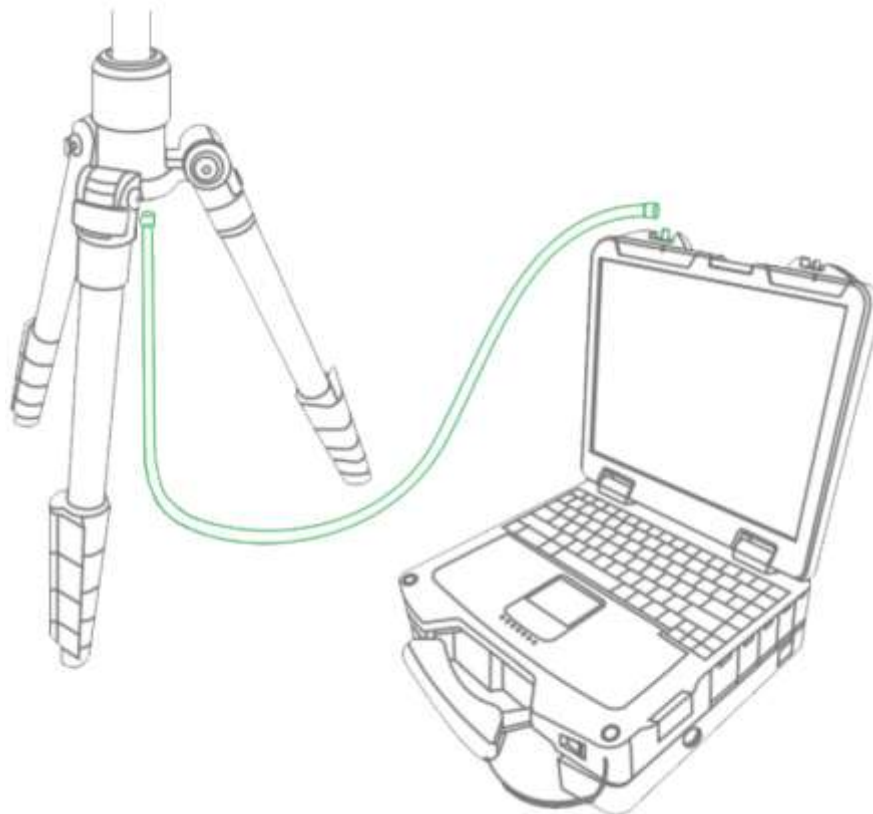

Figure 3-20
- Step 3 Connect the cable of image transmission antenna to the port of image transmission antenna on the left of ground station, as shown in Figure 3-20.